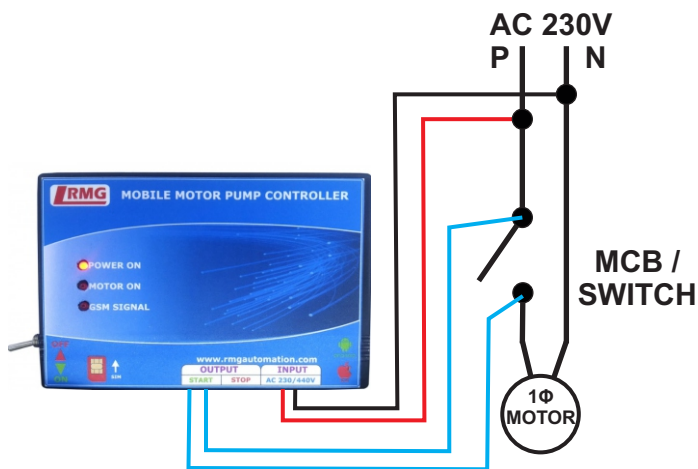

Figure1: 1Φ SWITCH/MCB
**Step 3:** Connect AC 230V / 440V to Red and Black wires of GSM controller respectively. (refer figure 1 and 2)
**Step 4:** For Switch or MCB, Connect blue pair wire to the switch/MCB of the motor in parallel as shown in figure 1.